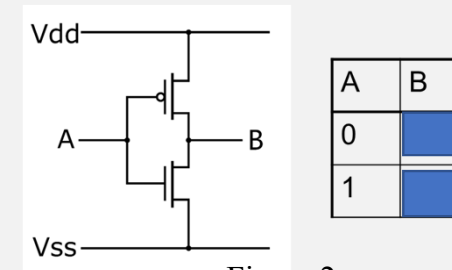

Figure 2
❑ (2) Fill in the highlighted blanks in Figure 2.